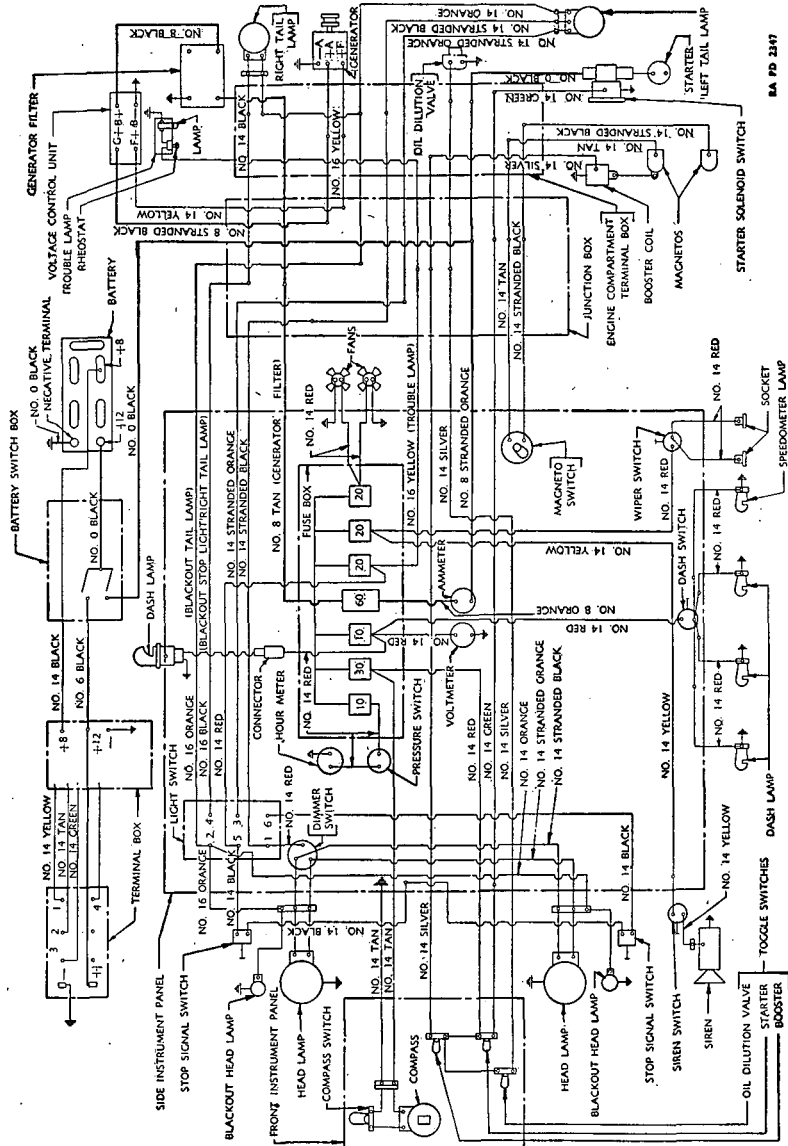
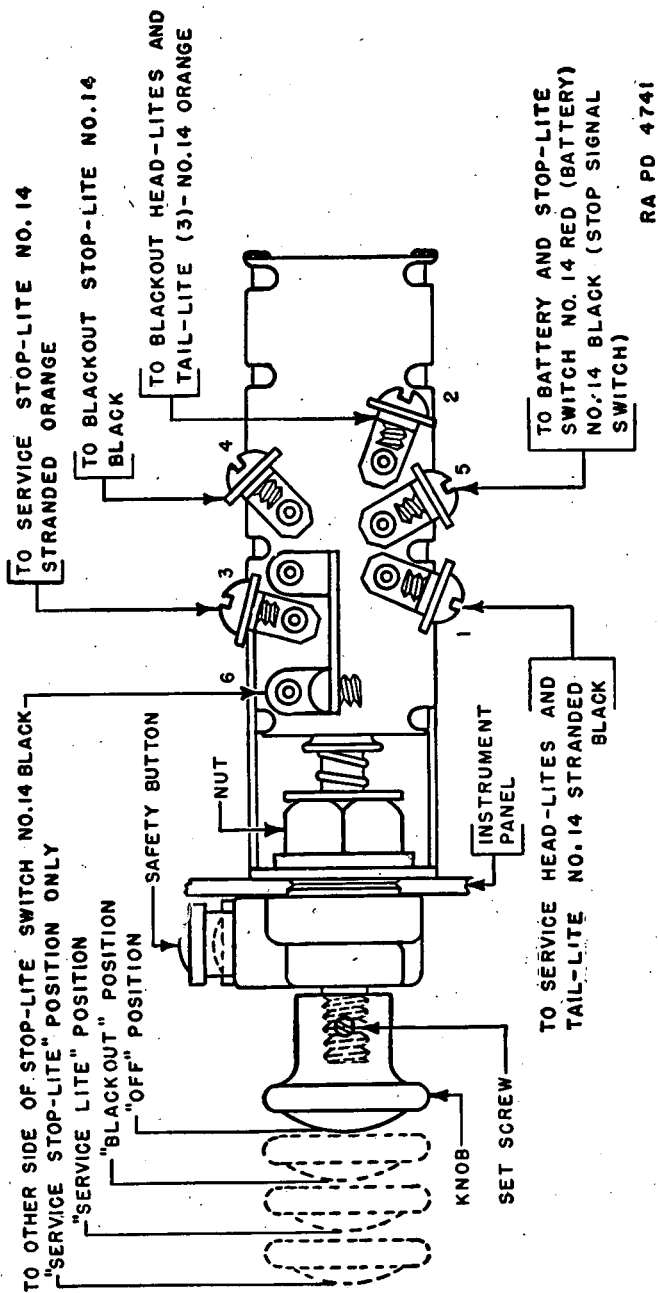

Figure 98. — Wiring diagram.
Figure 99.—Light switch.
118. Generator.—The engine of the vehicle drives a 12-volt direct current generator. Under normal operation of the vehicle, the generator supplies enough current to operate all of the electrical equipment. Consult the wiring diagram (fig. 98). For replacement and other details of this unit see paragraph 57.
(2) *Replacement.*—If the ammeter is defective, use the following procedure for replacement (refer to fig. 96 and wiring diagram, fig. 98):
(2) *Replacement* (refer to fig. 96 and wiring diagram, fig. 98).—
terminals, since one small drop of solder falling into the switch may cause a short circuit. If there is not sufficient slack in the wires leading to the magneto switch from the junction box, install new wires. Consult the wiring diagram (fig. 98).
3. Remove and tag wires from switch (see wiring diagram, fig. 98).
e. Lighting switch (fig. 99).—(1) Operation.—The exterior lights on the vehicle are controlled by a 4-position push-pull switch. Starting from the “off” position, pulling the knob of the switch out to the first notch provides current for the blackout headlights, taillight, and stoplights. A safety button must be depressed before the switch knob can be pulled to the second position. This position supplies current for the operation of the service headlight, taillight, and stoplights. A dimmer switch in the headlight circuit must be in the “on” position for full illumination of the terrain in front of the vehicle. The third position of the switch provides current for the service spotlight only.
(2) *Replacement.*—The members near the terminal screws in figure 99 correspond with the numbers in wiring diagram figure 98. Use the following procedure in replacing the lighting switch:
f. Two position push-pull switches.—(1) Operation.—The service headlight dimmer, dash, wiper, and sponson gun relay switches are of the two position push-pull type. The first three are located on the side instrument panel. The sponson gun relay switch, mounted on the sponson gun relay box, is accessible to the driver. The sponson gun relay box is mounted on the side wall of the fighting compartment. Pulling the switch knob out operates the switch. Pushing the knob in makes the switch inoperative.
(2) *Replacement* (see figs. 8 and 96 and wiring diagram, fig. 98).—Use the following procedure in replacing defective push-pull switches:
h. Stop signal switch (fig. 98).—(1) *Operation.*—Two stop signal switches, connected in series, are used to complete the electrical circuit for operation of the service and blackout stoplights. Each steering lever operates one switch through a linkage. Since the switches are in series, both steering levers must be pulled back, or the brake bands contracted on the drums, before the circuit is completed and the stoplights function. These switches are mounted on the transmission case on either side of the differential.